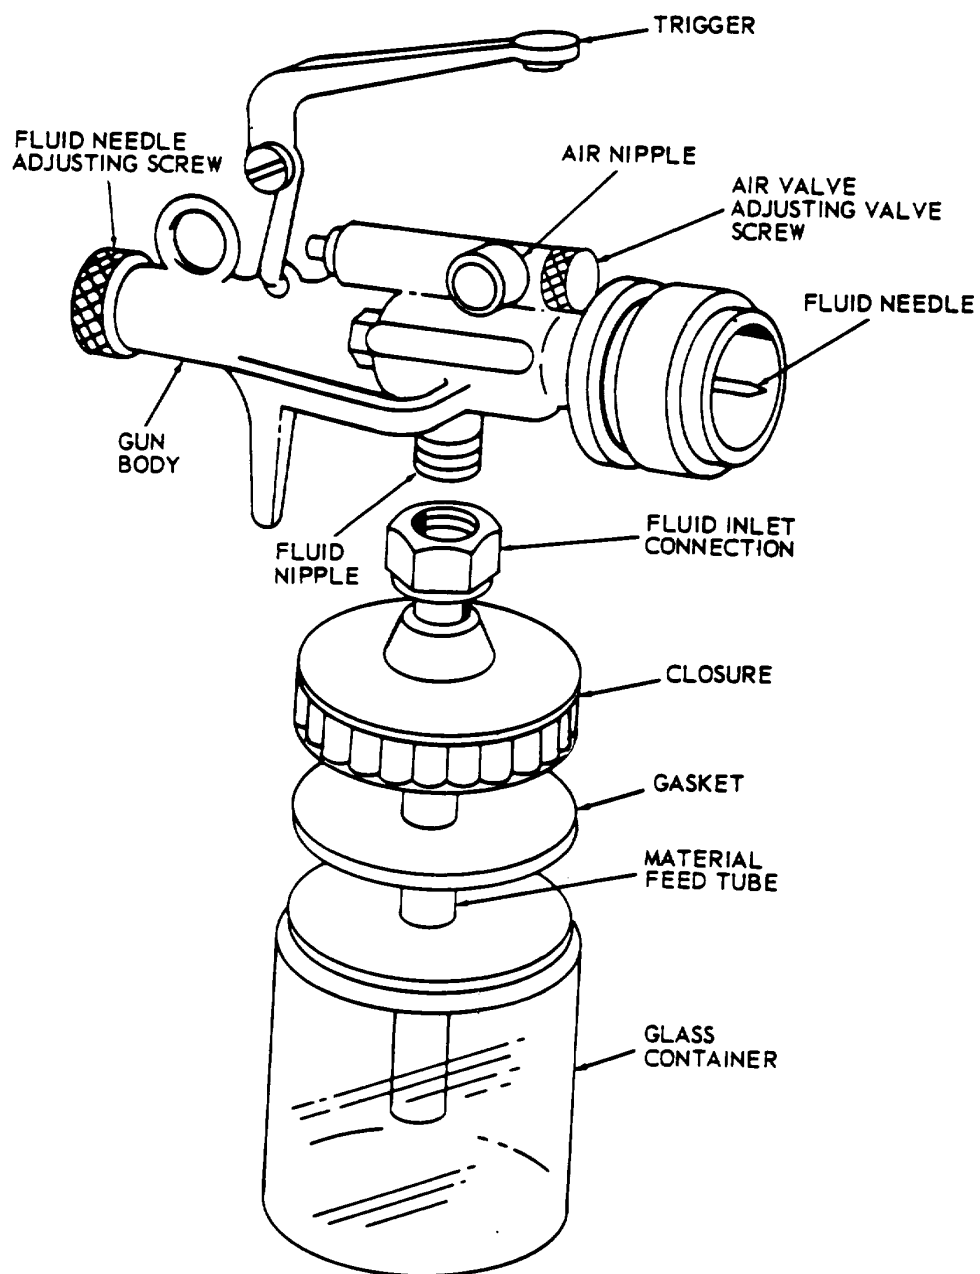

Figure 5-7. Attached-Container Type Spray Gun
- (1) In pressure or suction-feed guns, this condition is caused by air leakage into the material line due to:
- (2) Conditions which apply only to suction feed are:
- (d) The material feed tube (see figure 5-7) is resting on the bottom of the container.